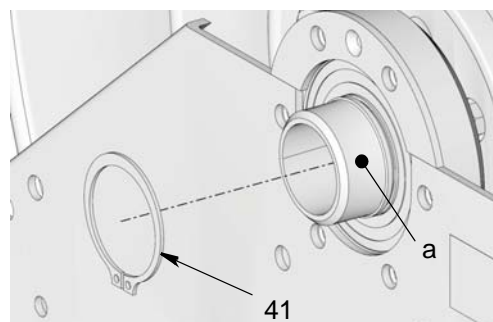

FIG. 21
- a. Use a snap ring pliers to remove snap ring (41) (FIG. 21).